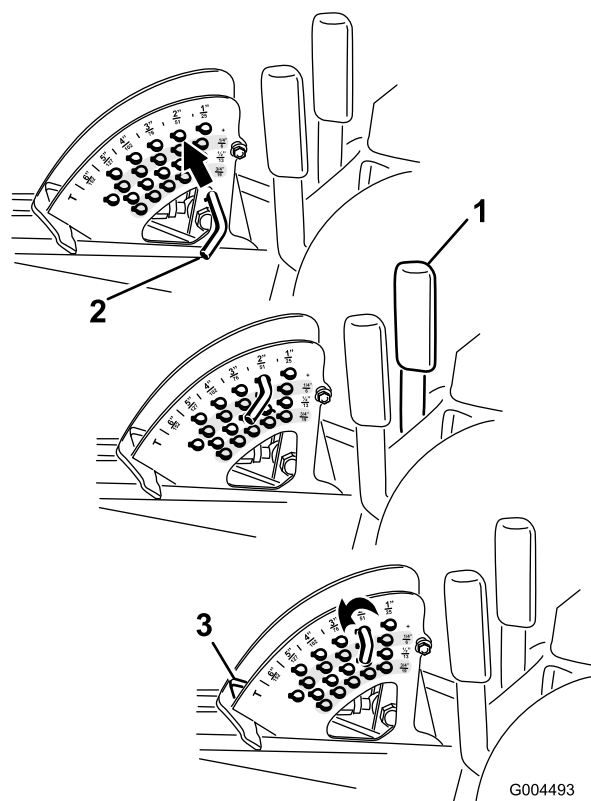

Figure 22
Note: To lock the mower deck in a raised position, raise the deck past the 6 inch (15 cm) position, remove the height of cut stop pin (refer to Adjusting the Height-of-Cut), and place the pin in the 6 inch (15 cm) height-of-cut position (Figure 22).
1. With the engine running, pull back on the deck lift lever until the mower deck is fully raised and **release the lever immediately** (Figure 22).
2. To adjust, rotate the stop pin until the roll pin in it lines up with the slots in the holes in the height-of-cut bracket and remove it (Figure 22).
3. Select a hole in the height-of-cut bracket corresponding to the height-of-cut desired, insert the pin, and rotate it down to lock it in place (Figure 22).
Note: There are four rows of hole positions (Figure 22). The top row gives you the height of cut listed above the pin. The second row down gives you the height listed plus 1/4 inch (6 mm). The third row down gives you the height listed plus 1/2 inch (12 mm). The bottom row gives you the height listed plus 3/4 inch (18 mm). For the 6 inch (15.8 cm) position there is only one hole, located in the second row. This does not add 1/4 inch (6 mm) to the 6 inch (15.8 cm) position.